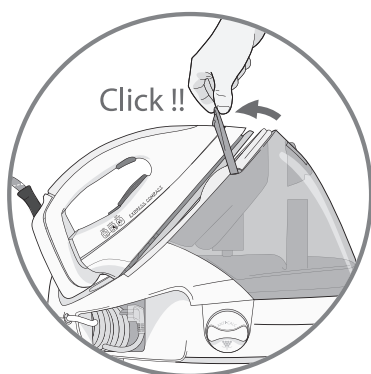

fig. 1
- Locking - **fig.1**
- Place the iron on the iron rest of the generator and raise the retaining hoop over the iron until it locks into place (audible click) - **fig.1**.